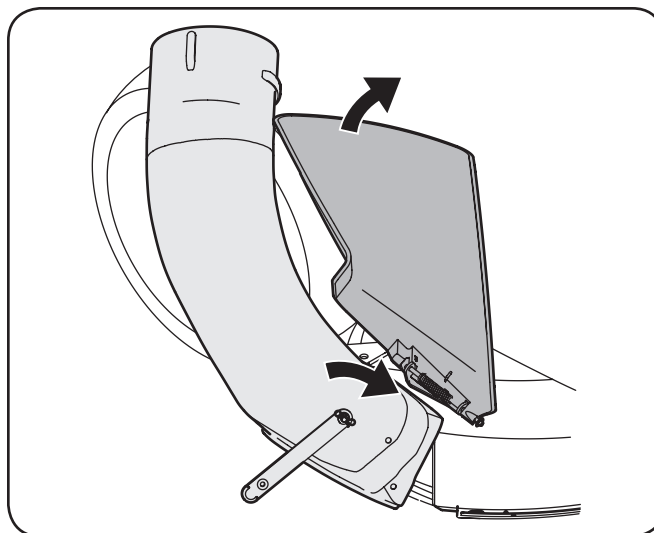

Figure 4-19
11. With the tractor's discharge chute raised up and held open, install the chute elbow over the chute opening by placing the top, rear edge of the chute elbow over the rear of the deck opening, then pivoting the chute elbow down and over the chute opening. See Fig. 4-19.